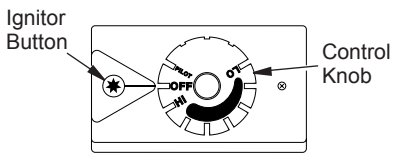

Figure 25 - Control Knob In The OFF Position
4. Wait five (5) minutes to clear out any gas. Then smell for gas, including near the floor. If you smell gas, STOP! Follow "B" in the safety information, page 18. If you don't smell gas, go to the next step.
5. Turn control knob counterclockwise  to the PILOT position. Press in control knob for five (5) seconds (see Figure 25). *Note: You may be running this fireplace for the first time after hooking up to gas supply. If so, the control knob may need to be pressed in for 30 seconds or more. This will allow air to bleed from the gas system.*